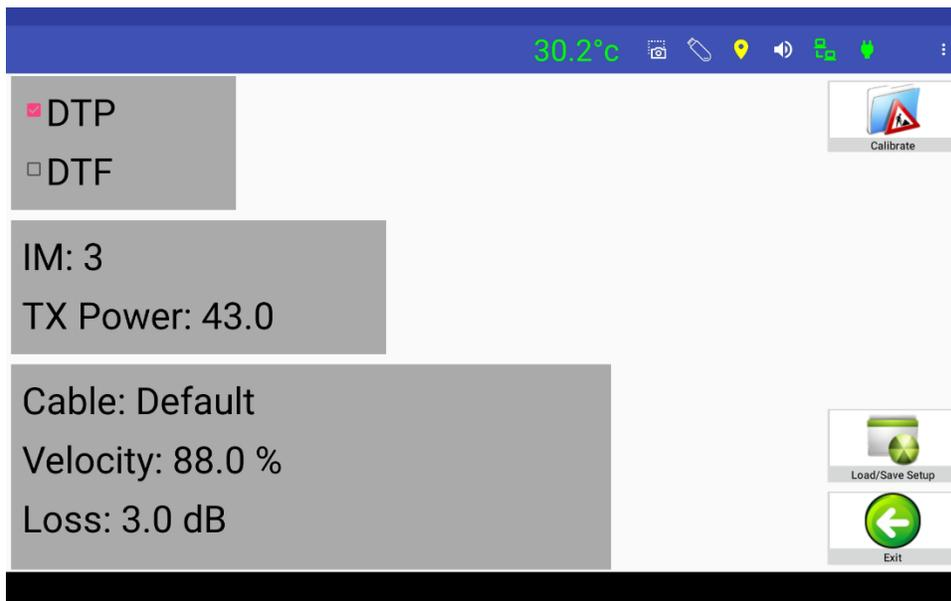

Figure 33 - PIMPoint Details Window
1. **Calibration Parameters.** Various calibration parameters can be set by the user as seen in the **PIMPoint Details Window** shown in **figure 33** below.
- d. **Cable Identification.** The user can select the cable type to be used by depressing the "**Cable: Default**" portion of the window shown in **figure 33** below. This will open the listing of cables from the "Manage Cables" in the "System Configuration" menu
- e. **Velocity of Propagation compensation (VP).** This is the cable's VP ratio compared to the speed of light. Typically, 80 to 88%, can be input by depressing the "**Velocity: 88 %**" portion of the window shown in **figure 33** below. The user can set the number to that of the cable's manufacturer. It is important to get the right number as the distance precision is directly affected.
- f. **Loss per 100 ft (dB).** The other variable parameter is the cable Insertion Loss per 100 ft. length. If other than the Default value of 3 dB, this can be set to the appropriate loss value for the cable being used by depressing the "**Loss: 3.0 dB**" portion of the window shown in **figure 33** below.